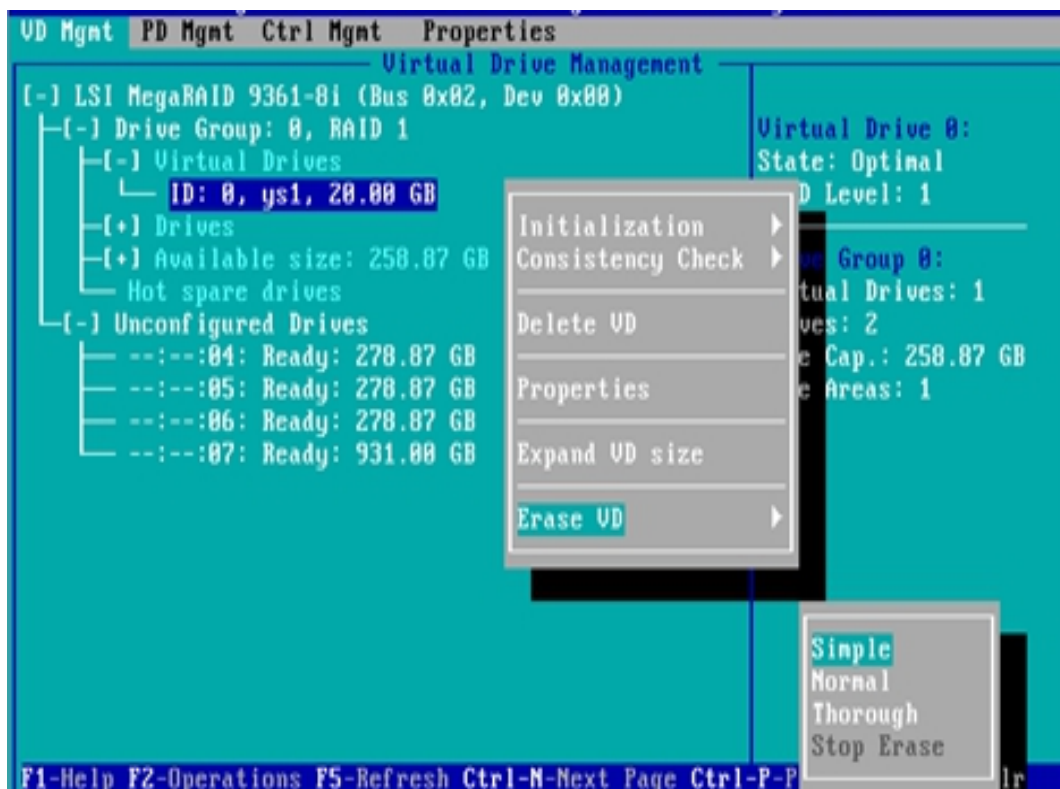

Figure 6-130
b) Enter the interface shown in figure 6-130, select erase mode (the default mode is recommended: simple), and press enter.
✧ Figure 6-130 select erase mode